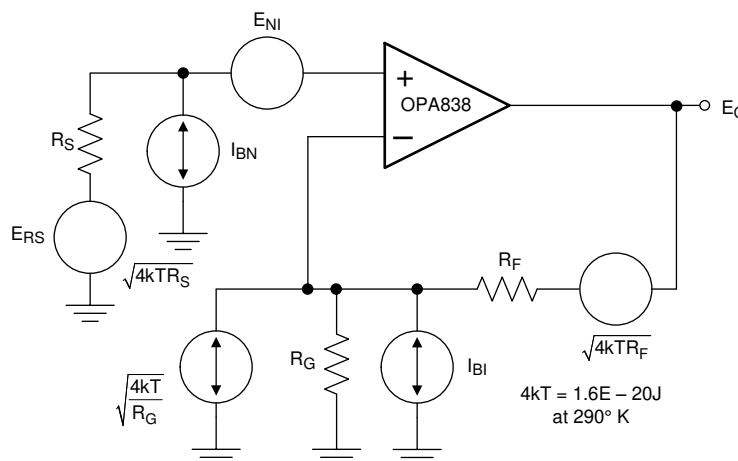
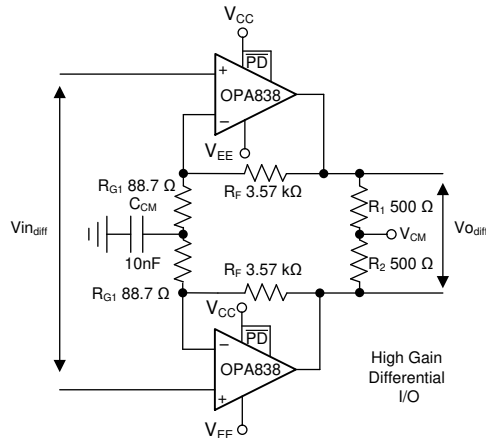

Figure 9-3. Op-Amp Noise-Analysis Model
Figure 9-4. High-Gain Differential I/O Stage
The decompensated voltage feedback of the OPA838 op amp offers among the lowest input voltage and current noise terms for any device with a supply current less than 1 mA. Figure 9-3 shows the op amp noise analysis model that includes all noise terms. In this model, all the noise terms are shown as noise voltage or current density terms in nV/ $\sqrt{\text{Hz}}$ or pA/ $\sqrt{\text{Hz}}$.
The total output spot noise voltage is computed as the square root of the squared contributing terms to the output noise voltage. This computation is adding all the contributing noise powers at the output by superposition, then taking the square root to return to a spot noise voltage. Equation 3 shows the general form for this output noise voltage using the terms presented in Figure 9-3.
A high-gain differential-to-differential I/O circuit can be used to drive a second-stage FDA or a differential-to-single-ended stage. This circuit is frequently used in applications where high input impedance is required (for example, if the source cannot be loaded). Figure 9-3 illustrates an example design where the differential gain is 41 V/V. An added element between the two R_G resistors increases the noise gain for the common-mode feedback. Make sure to provision for the added element; otherwise, a decompensated VFA (such as the OPA838) often oscillates. With only the R_G elements in the differential I/O design, the common-mode feedback is unity-gain and often causes high-frequency, common-mode oscillations. To resolve this issue, split the R_G elements in half and add a low-impedance path, such as a capacitor or a DC reference, between the two R_G values.
As an example design, start with the circuit in Figure 9-4.
- Assess the DC common-mode biasing on the noninverting inputs. The DC biasing must be in range and have a gain of 1 to the output. This is not illustrated in Figure 9-3.
- If a DC reference is used as the mid- R_G bias, setting the reference equal to the noninverting input bias voltage sets the output common-mode to that voltage. Using a capacitor as illustrated in Figure 9-3 accomplishes the same results.
- Set the total R_G value near the high gain values using Table 9-1. This 178- Ω total must be split for a center tap to increase the common-mode noise gain, as shown by the 88.7- Ω value in Figure 9-4.
The common-mode loop instability without the R_G center tap is not often apparent in the closed-loop differential simulations. The common-mode loop instability without the R_G center tap can often be detected in a common-mode output-noise simulation as Figure 9-5 shows. Grounding the inputs Figure 9-4 and running an output-noise simulation for the common-mode tap point in Figure 9-3 shows a peaking in the noise at high frequency. This peaking indicates low-phase margin for the common-mode loop. Figure 9-5 shows this peaking in the lowest noise curve, with two options for improving phase margin. The first option used in Figure 9-4 is a capacitor to ground set to increase the common-mode noise gain only at higher frequencies. This increase can be seen by the peaking in the common-mode noise of Figure 9-5. Another alternative is to provide a dc voltage reference on the R_G center tap. This method raises the common-mode noise gain from dc and beyond. Neither of these latter two options show any evidence of low phase-margin peaking. These two options do increase the output common-mode noise significantly at lower frequencies. Typically, an increase in output common-mode noise is more acceptable than low-phase margin because the next stage (FDA, ADC, differential to single stage) rejects common-mode noise.